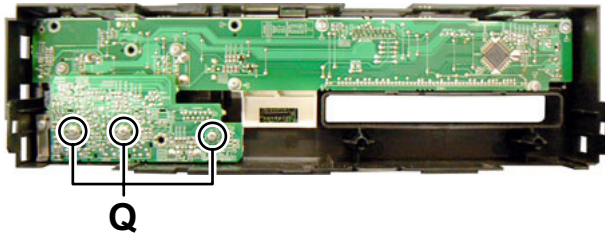

Fig.17
3.1.9 Removing the Front jack board (See Fig.17)